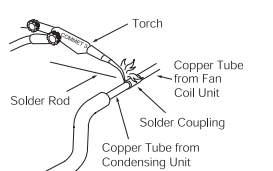

Figure 15
4. To braze the copper tube, before brazing a copper tube to a solder coupling or a copper tube to an expanded tube, do not forget to keep them tight as shown in Figure 15.